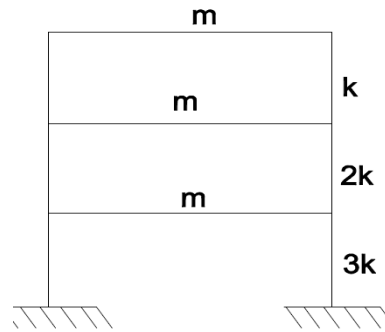

Figure 2
6. Determine the natural frequencies and mode shapes of the framed structure shown in Figure 2. The floor is considered to be absolutely rigid. [14 M]